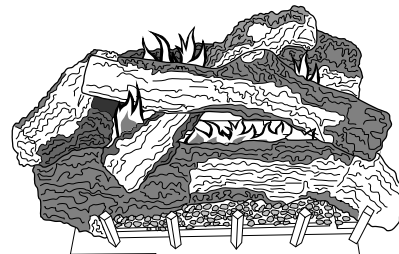

Figure 52 - Typical Flame Pattern for (V)V36E and (V)V42E Series Models
Figure 52 shows a typical flame pattern for (V)V36E and (V)V42E series models.